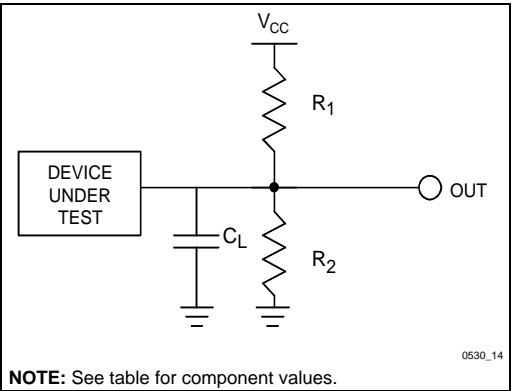

Figure 21. Test Configuration
5. See *Test Configuration* (Figure 21), 3.6 V and 3.3 ± 0.3 V Standard Test component values.
6. See *Test Configuration* (Figure 21), 5 V Standard Test component values.
9. See *Test Configuration* (Figure 21), 3.6 V and  $3.3 \pm 0.3$  V Standard Test component values.
10. See *Test Configuration* (Figure 21), 5 V Standard Test component values.